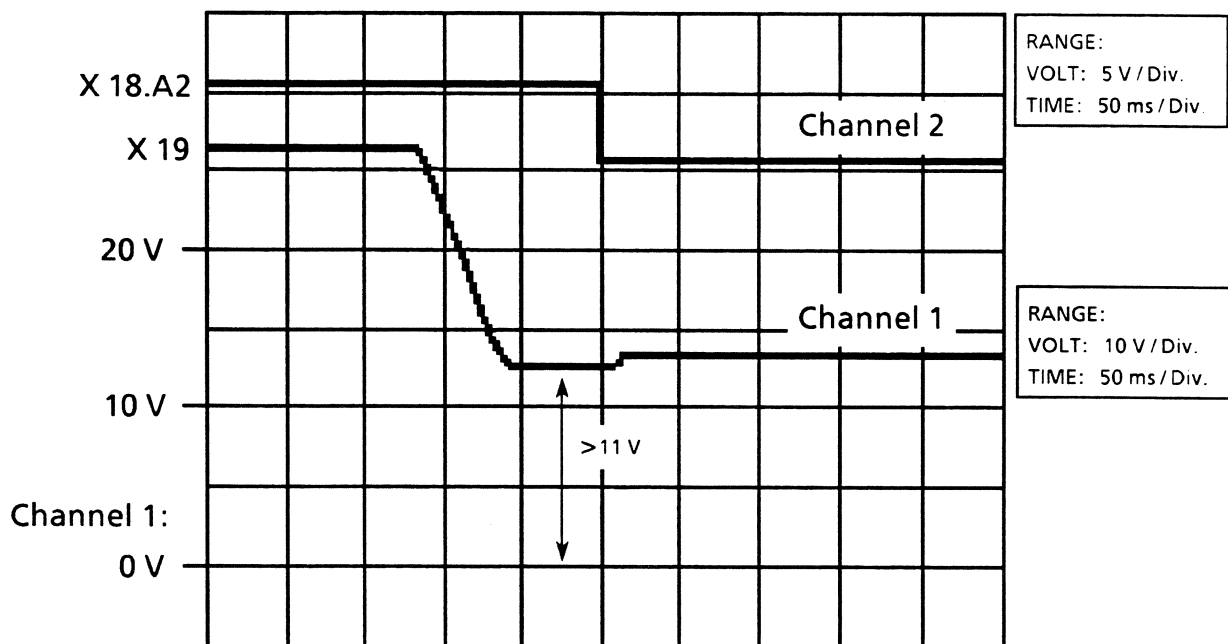

Fig. 7-19 Voltage characteristic at X19 with switchover from mains operation to accumulator
- ▶ Check the voltage characteristic at X19 on the oscilloscope (fig. 7-19).